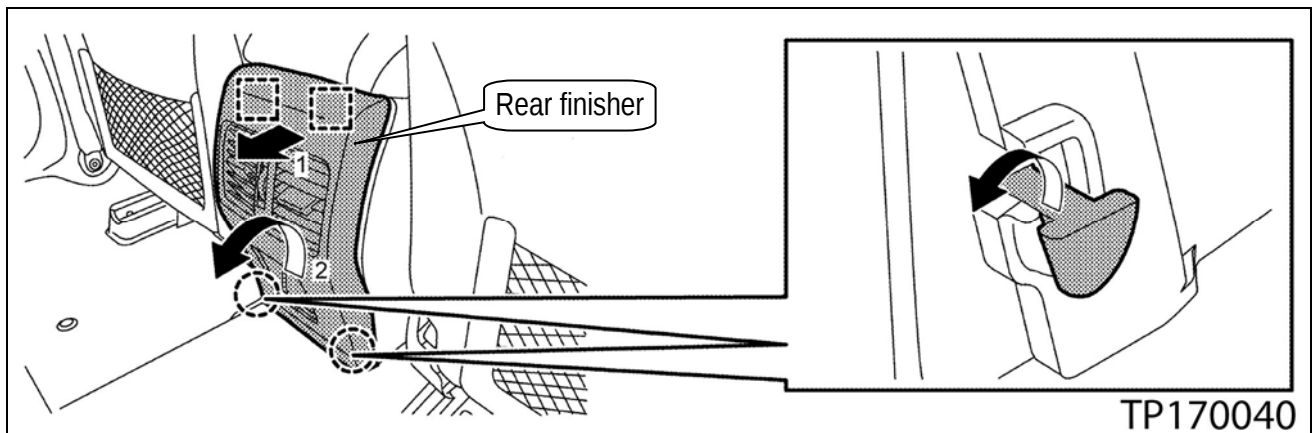

Figure 10
- h. Unsnap the top [1], tilt back [2], and then lift out the center console rear finisher (see Figure 10).